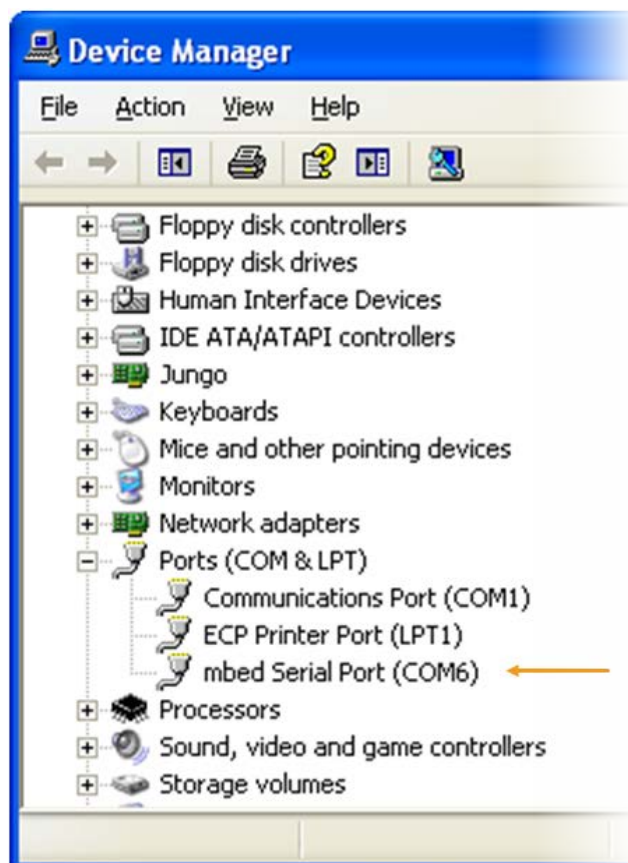

Figure 3. COM port associated with the MT7686 HDK
- 3) In **Device Manager**, navigate to **Ports (COM & LPT)** (see Figure 3).
- 4) A new **COM** device should appear under **Ports (COM & LPT)** in **Device Manager**, as shown in Figure 3. Note the **COMx** port number of the serial communication port, this information is needed to send command and receive logs from the COM port. Virtual COM port is connected to the board through the **UART0** of the MT7686, see section 4.5, “ Extension connectors”. The **mbed Serial Port (UART0)** is applied to flash the board and log the outputs.